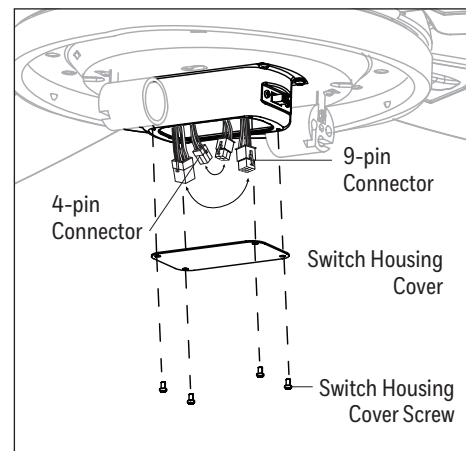

Figure 5.9
9. Connect the two 4-pin connectors and two 9-pin connectors from the switch housing. Insert the connectors into the switch housing. Then, install the switch housing cover to the switch housing using the switch housing cover screws that were previously removed (Figure 5.9).